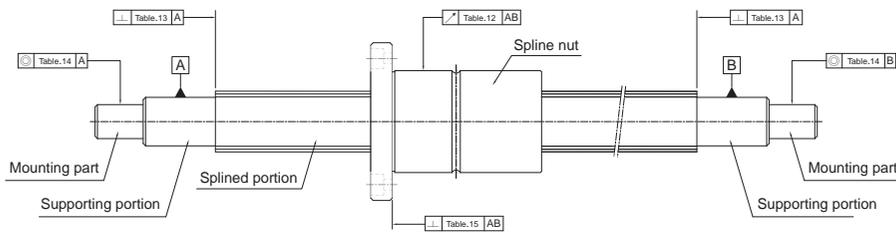

Fig.26 Accuracy Measurement Item of the Ball Spline
The accuracy of the Ball Spline is classified into three grades: normal grade (N), high accuracy grade (H) and precision grade (P), according to the runout of spline nut circumference in relation to the support of the spline shaft. Fig.26 shows measurement items.